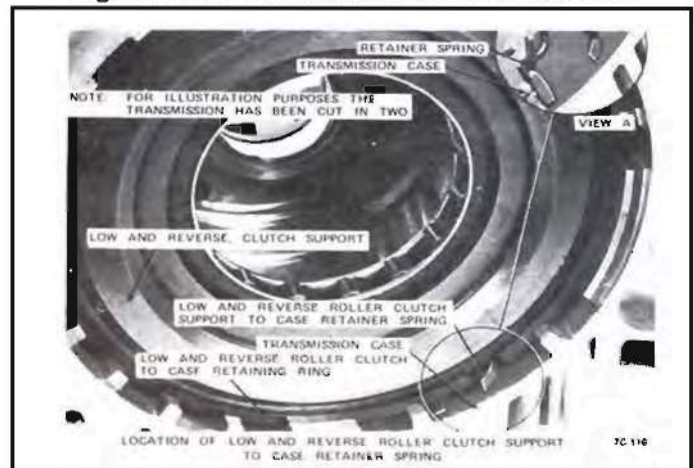

Figure 85 Retainer Location
2. Install low and reverse clutch support retainer spring. *See Figure 85.*
4. Install low and reverse clutch support to case retaining ring. *See Figure 85.*